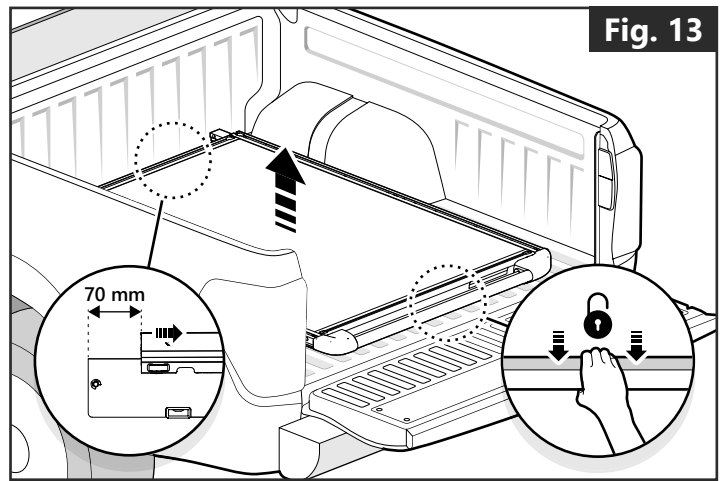

Fig. 13
- Position the deck 70 mm from the back of the base frame and - while holding the handle in the unlocked position - lift the deck up. **(Fig. 13)**